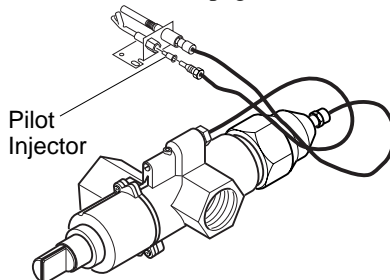

Figure 17 - Installing Propane/LP Pilot Orifice
1. Gently loosen and remove the pilot line connection from the bracket (see Figure 17).
2. Replace the injector (see Figure 17) with the propane/LP pilot injector with the red stripe.